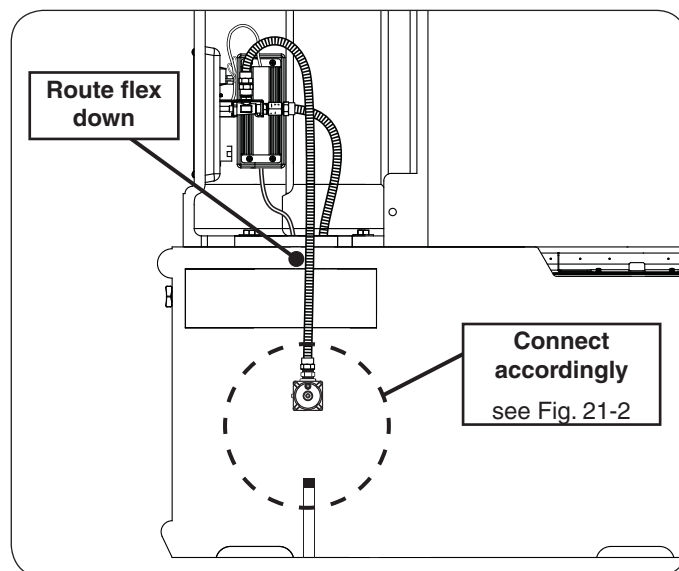

Fig. 21-1 Route flex connector to gas supply
1. Locate the flex connector that is already installed on the rear of the valve assembly. Route the flex down through the hole in the hearth. See Fig. 21-1.